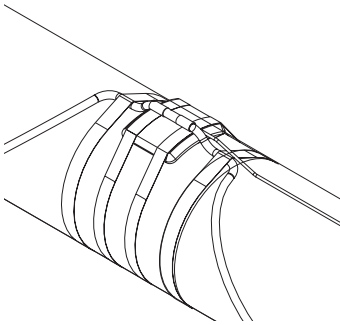

Figure 9: Artificial hot spot
- The correct position is on top of the pipe. See Figure 9.